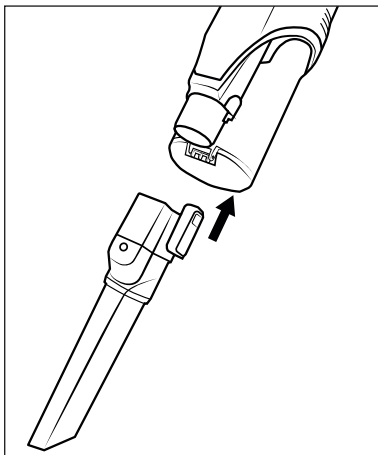

Fig. 14
- The 2-in-1 combination brush ①② can be used as a wide nozzle or as a brush. Press and hold the release button and slide the brush attachment forward or backward as needed. Use the 2-in-1 combination brush ①② to vacuum drawers or storage compartments, for example, or to dust keyboards or delicate surfaces with the soft brush attachment.
- ♦ Push the accessory onto the suction pipe **24** or onto the suction opening of the appliance until it clicks into place (see Fig. 14). Make sure that the locking mechanism is in the correct position.